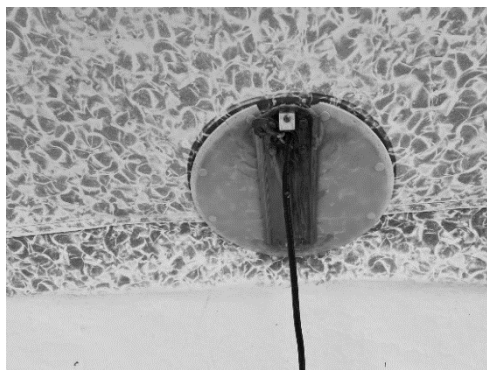

Figure 1
1. Remove the old AquaLumin from the niche. Undo the bolt at the top of the light. Take the gray plastic protector and all 4 bolts from the niche. See Figure 1.